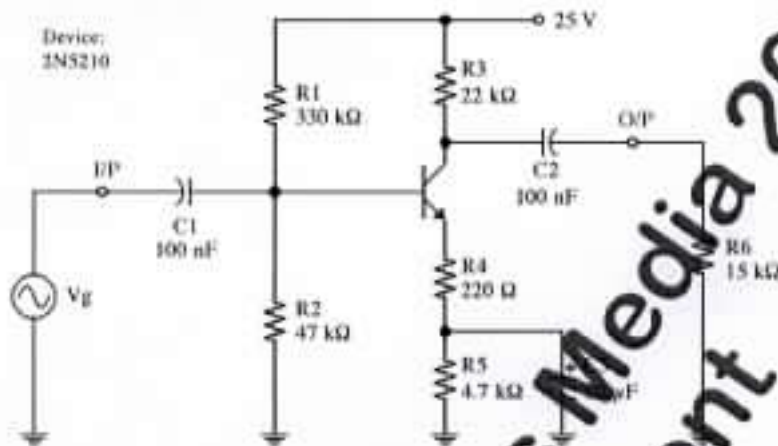

Figure 87-2. Troubleshooting Circuit
1. For the circuit of Figure 87-2, simulate the circuit using software in order to predict the results required for Table 87-1. If circuit simulation software is not available, the student may complete the required theoretical calculations assuming $h_{FE} = \text{very large}$, $h_{fe} = 575$, $V_{BE} = 600 \text{ mV}$, and $r_{e'} = 10 \Omega$.
1. The schematic diagram for the circuit used in this experiment is given in Figure 87-2.
3. There are a fixed number of printed circuit boards for the circuit of Figure 87-2, each having only one fault unless additional faults have been introduced by prior users.
1. For the circuit of Figure 87-2, an AC signal is seen with a scope at the input, at the base and the collector, but not at the output. List one fault which might cause this and explain your reasoning.
2. For the circuit of Figure 87-2, an AC signal is seen with a scope at the base but not at the collector. Also, V_E is normal but the collector is at the power supply potential. List one fault which might cause this and explain your reasoning.
3. For the circuit of Figure 87-2, an AC signal is seen with a scope at the input, at the base, at the emitter, across R_5 and at the collector but the collector signal is too small. List one fault which might cause this and explain your reasoning.